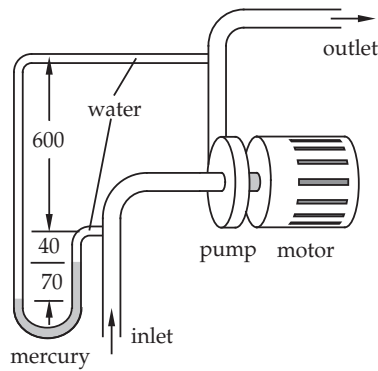

FIGURE P2.25.
25. A manometer containing mercury is used to measure the pressure increase experienced by a water pump as shown in Figure P2.25. Calculate the pressure rise if  $\Delta h$  is 70 mm of mercury (as shown). All dimensions are in mm.